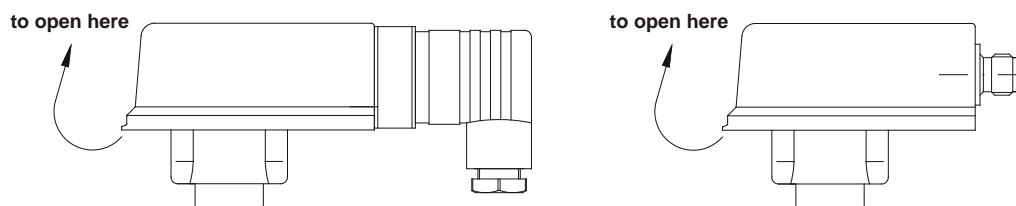

Fig.14
- ↪ To adjust the reed switching unit, open the junction box of the switch head (→ Fig. 14) (does not apply for VK60...)